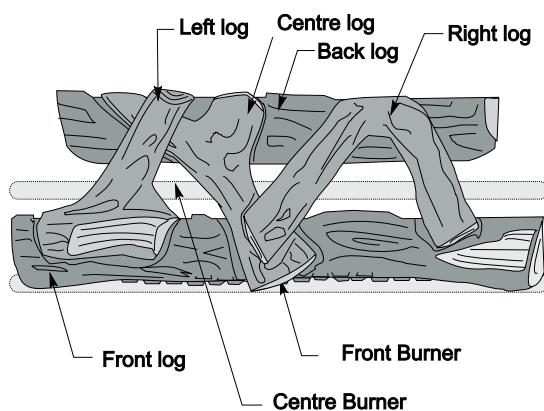

Figure 29a. Proper log placement.
4. Place the top logs in position as shown in **figure 29a**, place the centre log down first, then the right and left logs.